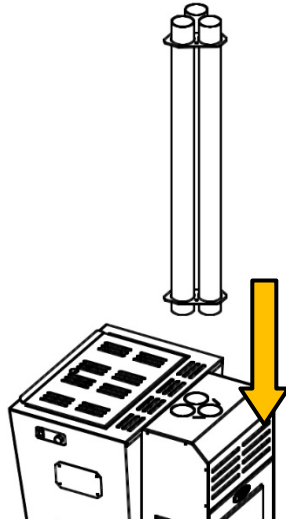

Fig. 2
- 1 Insert the pipes into the holes below and push them fully until they are well fixed (*Fig.2*)